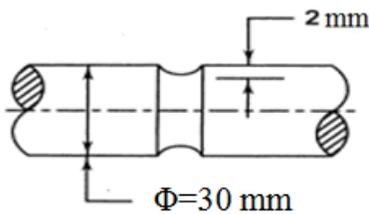

Figure.3a
3. a) A polished steel bar is shown in Figure.3a, subjected to axial tensile force that varies from zero to  $P_{\max}$ . It has a groove 2 mm deep and having a radius of 3 mm. The theoretical stress concentration factor and notch sensitivity factor at the groove are 1.8 and 0.95 respectively. The outer diameter of the bar is 30 mm. The ultimate tensile strength of bar is 1250 MPa. The endurance limit in reversed bending is 600 MPa. Find the maximum force that the bar can carry for  $10^5$  cycles with 90% reliability. Assume surface finish factor  $K_a=1$ , size factor  $K_b=0.85$ , reliability factor  $K_c=0.897$ . 8 M